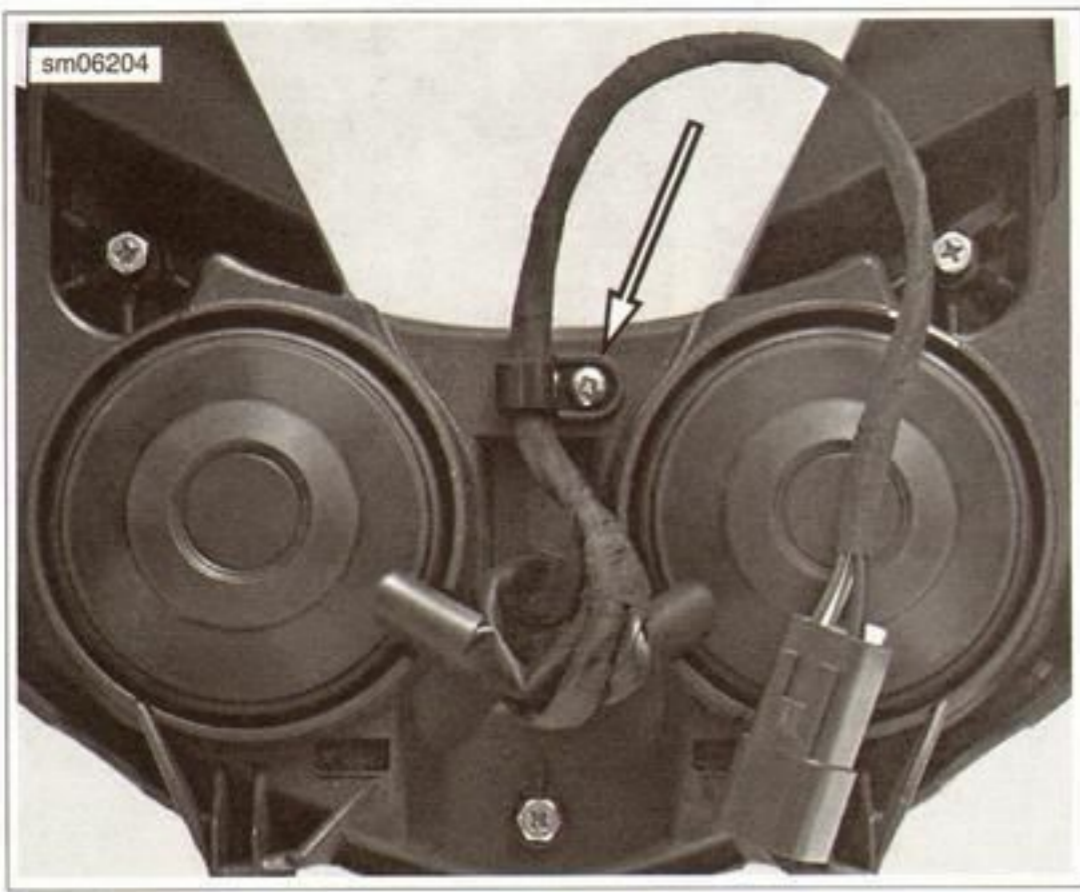

Figure 7-61. Headlamp Wire Harness P-Clamp
3. See Figure 7-61. Route the harness and tighten the P-clamp.